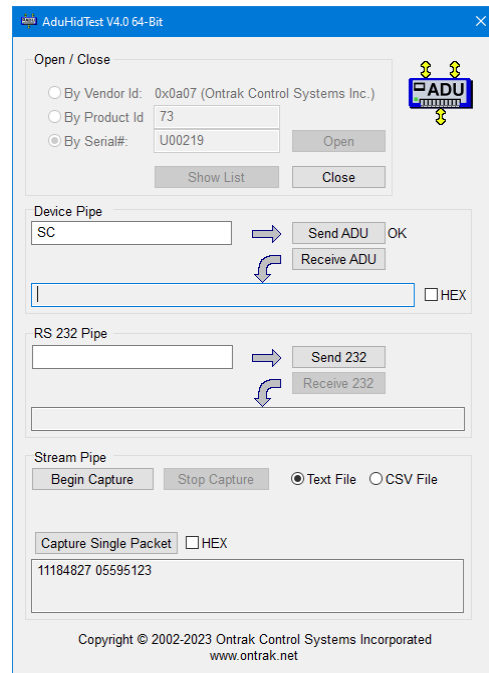

Figure 11: Sending **Stream Cancel (SC)** Command
Clicking the **Stop Capture** button does **not** stop the data stream from the ADU73. To stop the data stream, the **Stream Cancel (SC)** command should be sent on the device pipe. (Figure 11)